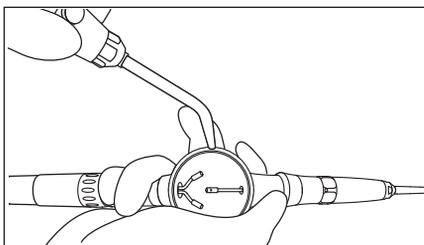

Fig. 13
- 3) Blow off the powder remaining in the powder case with air. (Fig. 13)